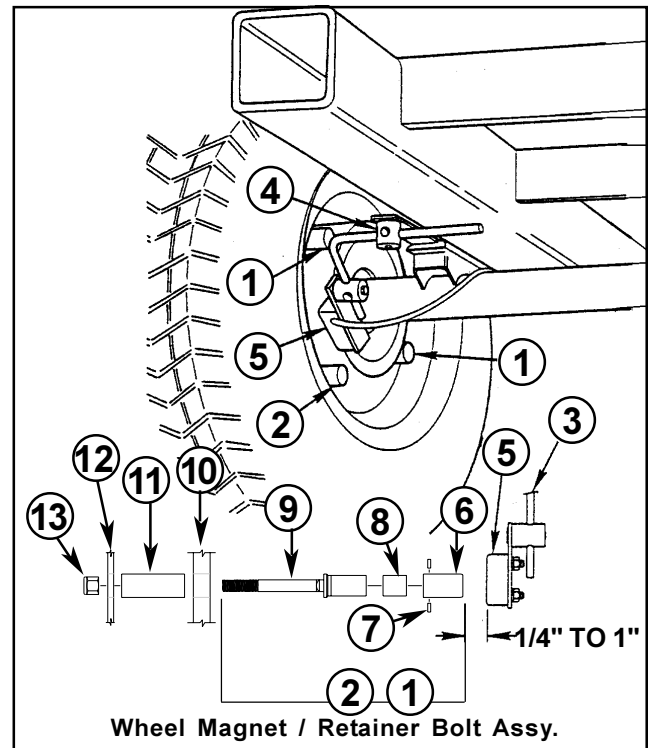

FIG. 6
**NOTE:** If the PRO-CONTROL™ SYSTEM or INJECTOR-PRO™ SYSTEM are being used, the Wheel Magnets for the Speed Sensor must be mounted on the ends of the Left Brake Hub / Adapter Plate Assembly Retainer Bolts. This is done by driving the roll pin out of the Wheel Magnet mounting stud (provided with the Speed Sensor assembly) and assembling the Magnets onto the Retainer Bolts (provided with the ENCLOSED BOOM). Place a drop of silicone sealant on the magnet mounting end of the retainer bolt and reinsert the roll pin to secure. FIG. 6